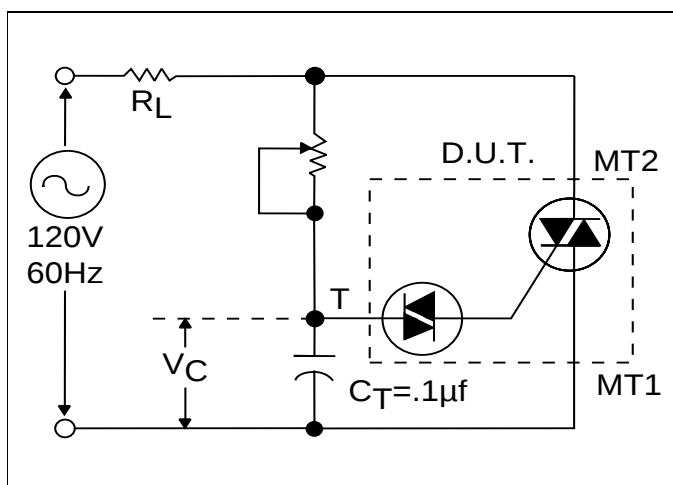
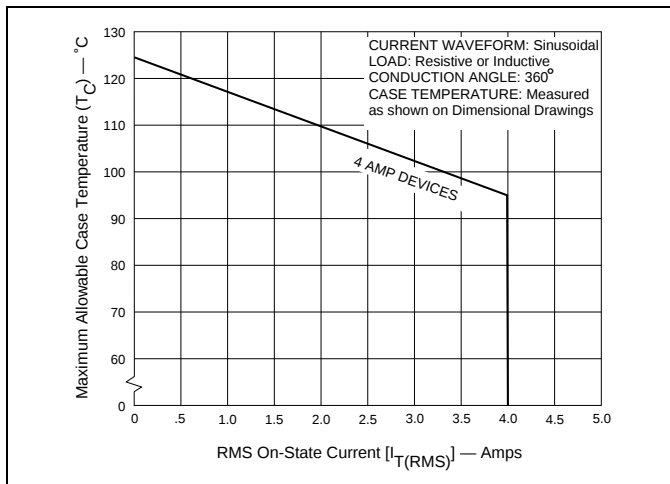

Figure 3.2 Test Circuit
Figure 3.7 Maximum Allowable Case Temperature vs On-State Current (4 Amp)
- (6) See Figures 3.2 and 3.3 for test circuit.
- (7) $\Delta V_{BO} = [+V_{BO}] - [-V_{BO}]$.
- (8) See Figures 3.7 and 3.8 for maximum allowable case temperature at maximum rated current.
- (9) Trigger firing capacitance = $0.1\mu\text{F}$ with $0.1\mu\text{s}$ rise time.
- (10) $T_C = T_J$ for test conditions in off-state.
- (11) Maximum required value to ensure sufficient gate current.